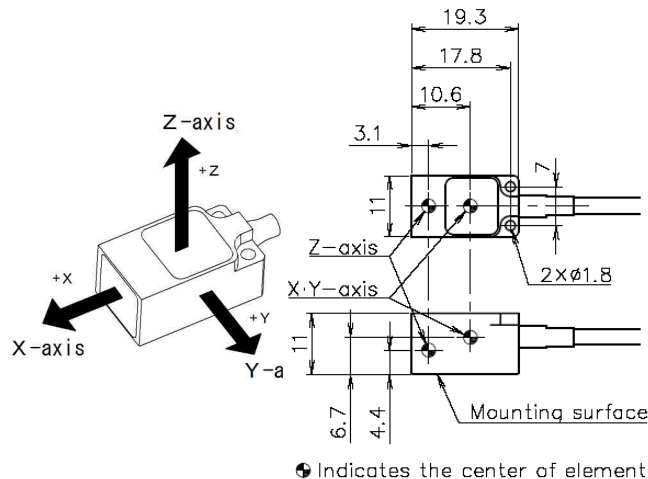

Fig.1
When installing the transducer, make sure of the model and, referring to Fig.1 below, install it to provide a proper sensing direction.
- When fixing the transducer with adhesive, apply adhesive to the mounting surface shown by Fig.1. If not, sufficient fixing power can't be obtained.